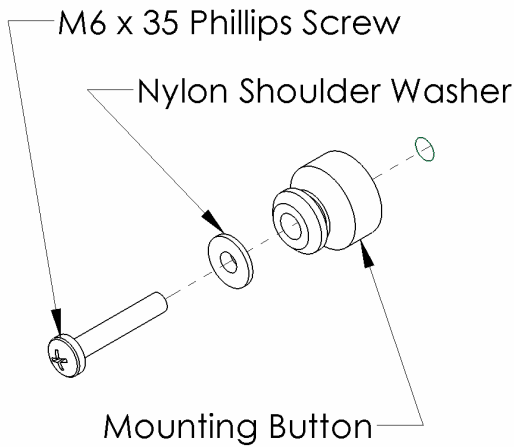
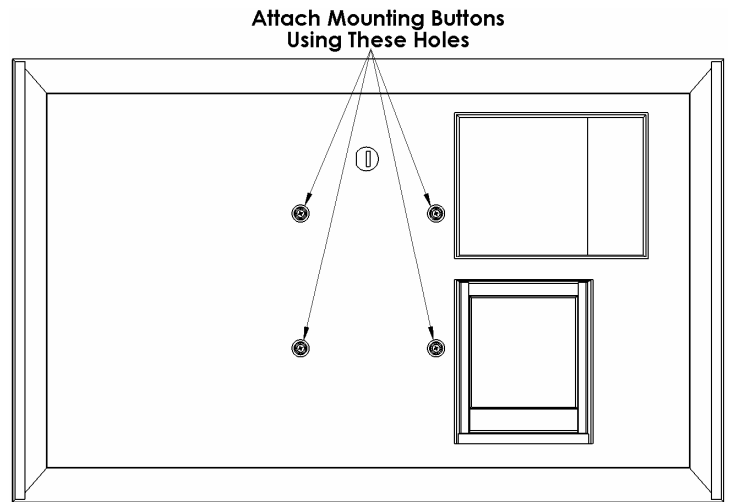

Figure 3
Figure 4
2. Attach mounting buttons to display using four M6 screws provided (see Figure 3 & Figure 4).